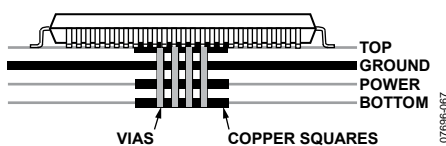

Figure 60. Exposed Pad Layout Example—Side View
- A copper layer equal in size to the exposed pad should be on all layers of the board, from top to bottom, and should connect somewhere to a dedicated copper board layer (see Figure 60).